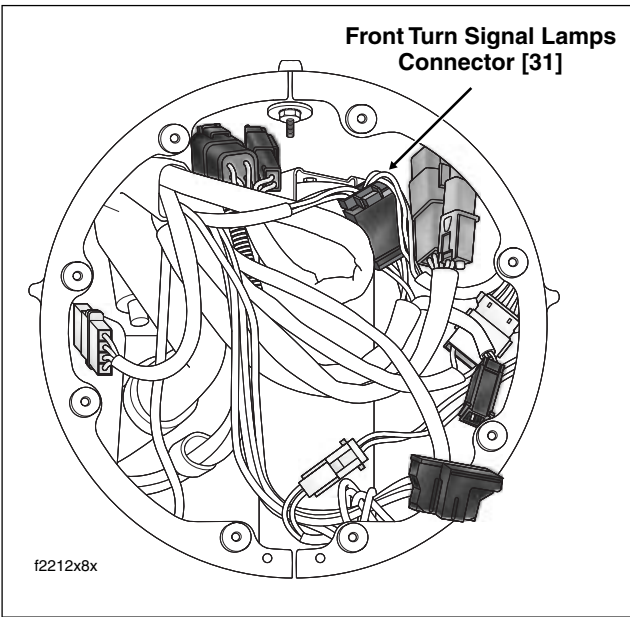

Figure 8-57. Headlamp Nacelle (FLHRC)
FLHR/C: Remove headlamp assembly. See Section 8.11 HEADLAMP (FLHR/C/S, FLHX, FLHT/C/U), HEADLAMP ASSEMBLY, REMOVAL. Disconnect the front turn signal lamps connector [31], 6-place Multilock, anchored in hole of fork stem nut lockplate (left side). See Figure 8-57.
FLHR/C: Install anchor on connector into hole of fork stem nut lockplate (left side). See Figure 8-57. Install headlamp assembly. See Section 8.11 HEADLAMP \(FLHR/C/S, FLHX, FLHT/C/U\), HEADLAMP ASSEMBLY, INSTALLATION.
2. Inside headlamp nacelle, locate the front turn signal lamps connector [31], 6-place Multilock, anchored in hole of fork stem nut lockplate (left side). See Figure 8-57.